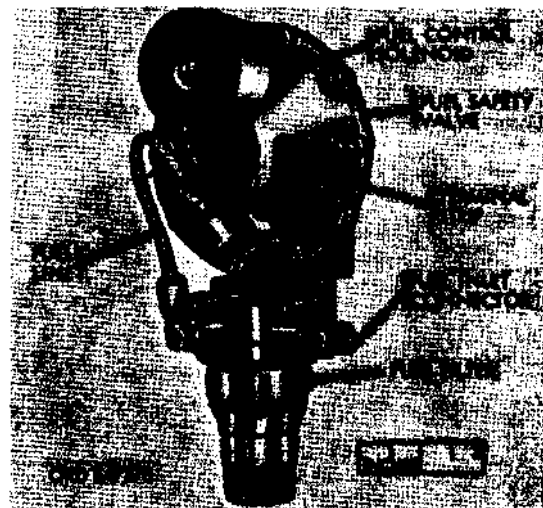

Figure 584. Fuel safety valve and fuel filter
(15) Safety Valve. The safety Valve (fig. 584) consists of a shutoff solenoid and a casting, which houses a large diaphragm and spring. The safety valve provides just the initial flow of fuel for ignition. Additional fuel to sustain combustion is received only after the shut-off solenoid of the safety valve is energized when the ventilating air blower comes on.